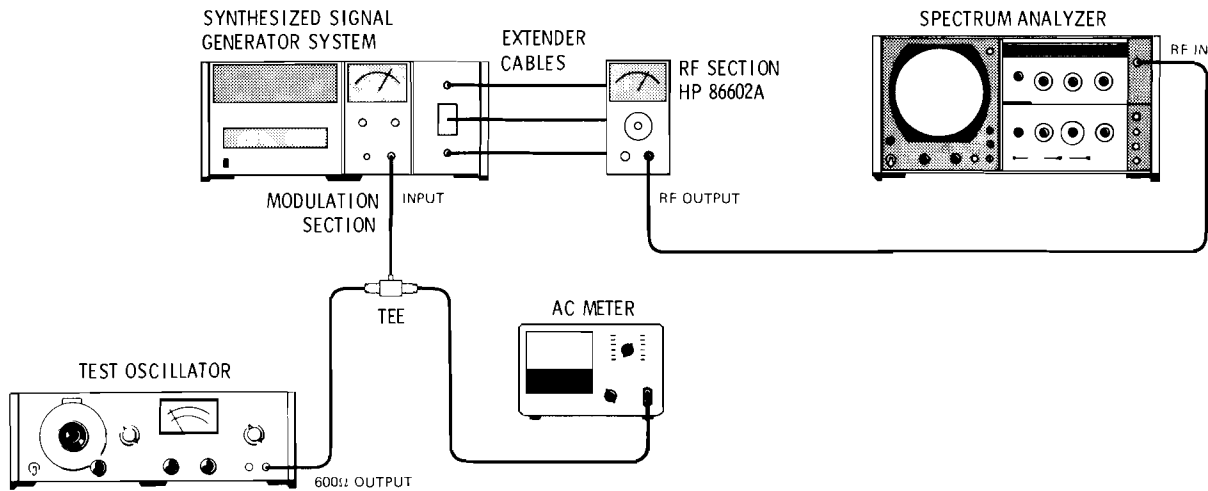

Figure 5-3. AM Input Circuit Adjustment Test Setup
1. Connect equipment as illustrated in Figure 5-3.